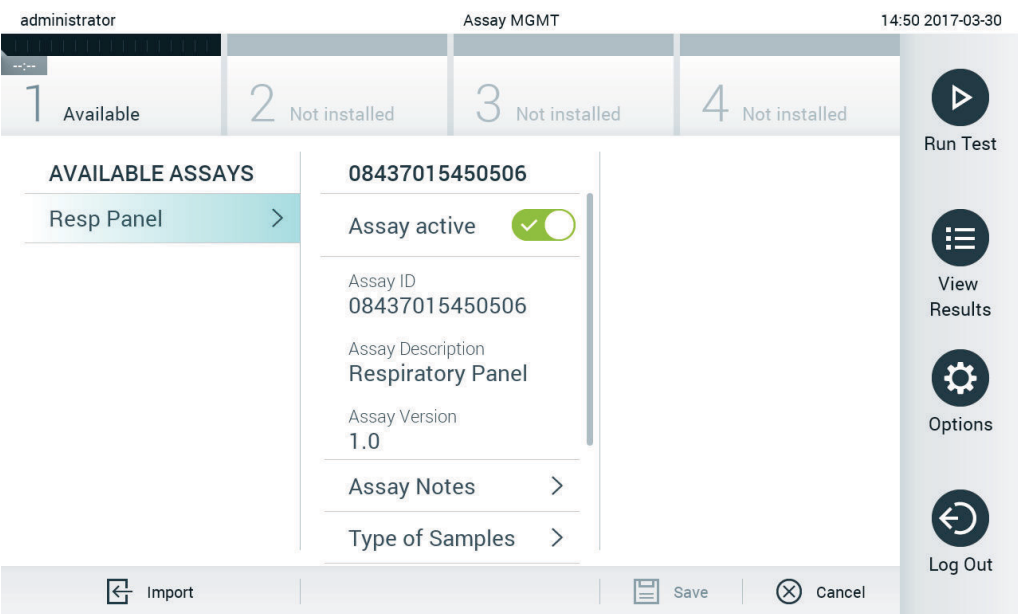

Figure 59. Managing available assays.
1. Press the **Options** button and then the **Assay Management** button to access the **Assay Management** screen. The available assays are listed in the first column of the content area (Figure 59).